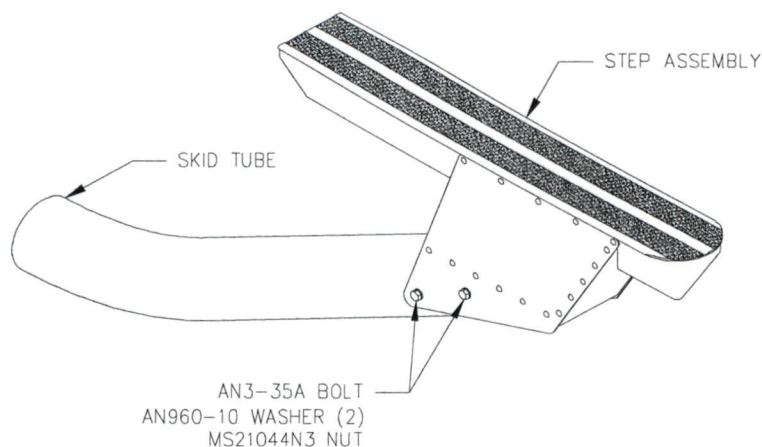

Figure 25-7 – Forward Step Attachment
2. Locate forward end of step assembly on forward end of skid tube. Install two (2) AN3-35A Bolt, AN960-10 Washers, and MS21044N3 Nut into existing holes in forward end of skid tube. See figure 25-7.